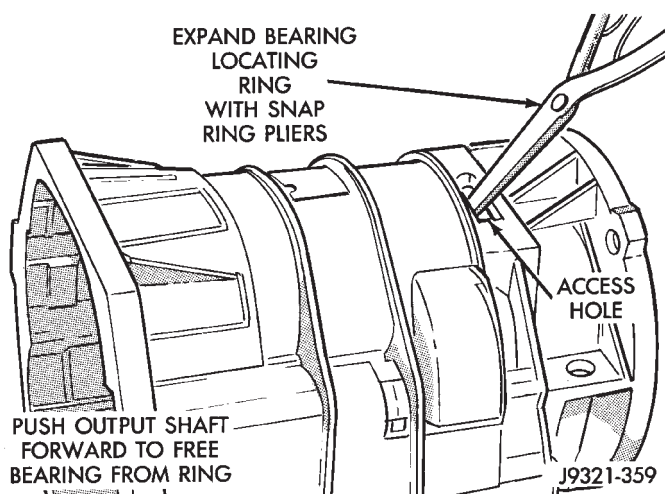

Fig. 203 Releasing Bearing From Locating Ring
(5) Expand output shaft bearing snap ring with expanding-type snap ring pliers. Then push output shaft forward to release shaft bearing from locating ring (Fig. 203).